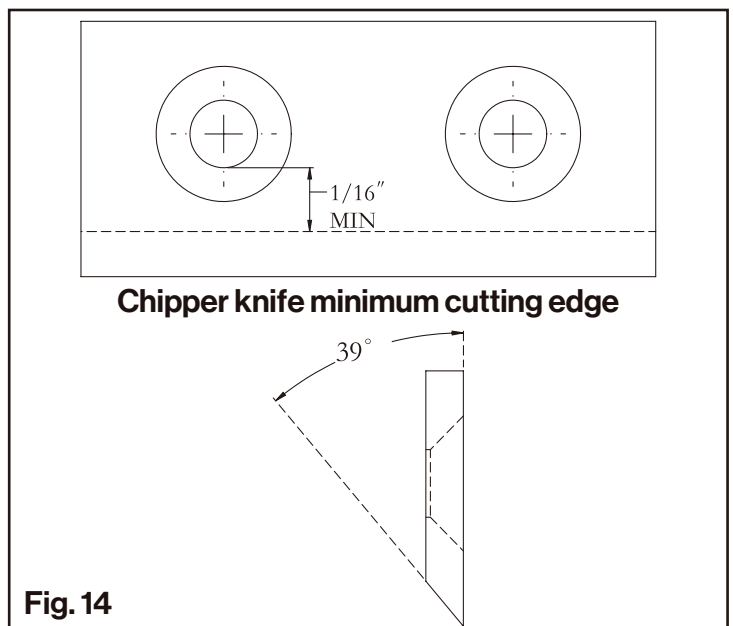

Fig. 14
2. The chipping knives may be sharpened at a 39 degree angle until the distance between the edge of the blade bevel and the mounting hole is less than 1/16" (1.6mm). (**Fig.14**)
6. Inspect, rotate, sharpen, or replace the chipper knife. (**Fig.14**)